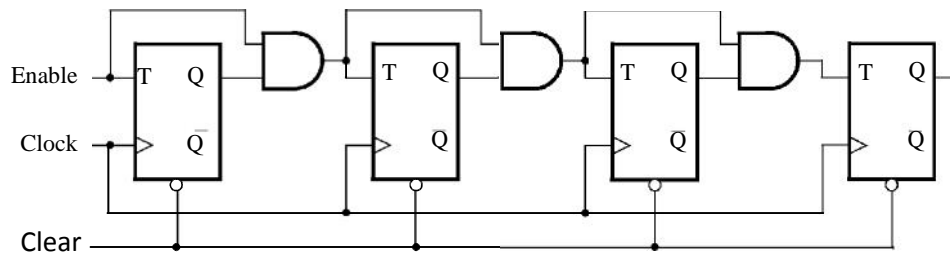

Figure 1. A 4-bit counter.
Consider the circuit in Figure 1. It is a 4-bit synchronous counter which uses four T-type flip-flops. The counter increments its count on each positive edge of the clock if the Enable signal is asserted. The counter is reset to 0 by using the Reset signal. You are to implement a 16-bit counter of this type.
1. Write a Verilog file that defines a 16-bit counter by using the structure depicted in Figure 1. Your code should include a T flip-flop module that is instantiated 16 times to create the counter. Compile the circuit. How many logic elements (LEs) are used to implement your circuit? What is the maximum frequency, F_{max} , at which your circuit can be operated?
5. Use the Quartus II RTL Viewer to see how Quartus II software synthesized your circuit. What are the differences in comparison with Figure 1?